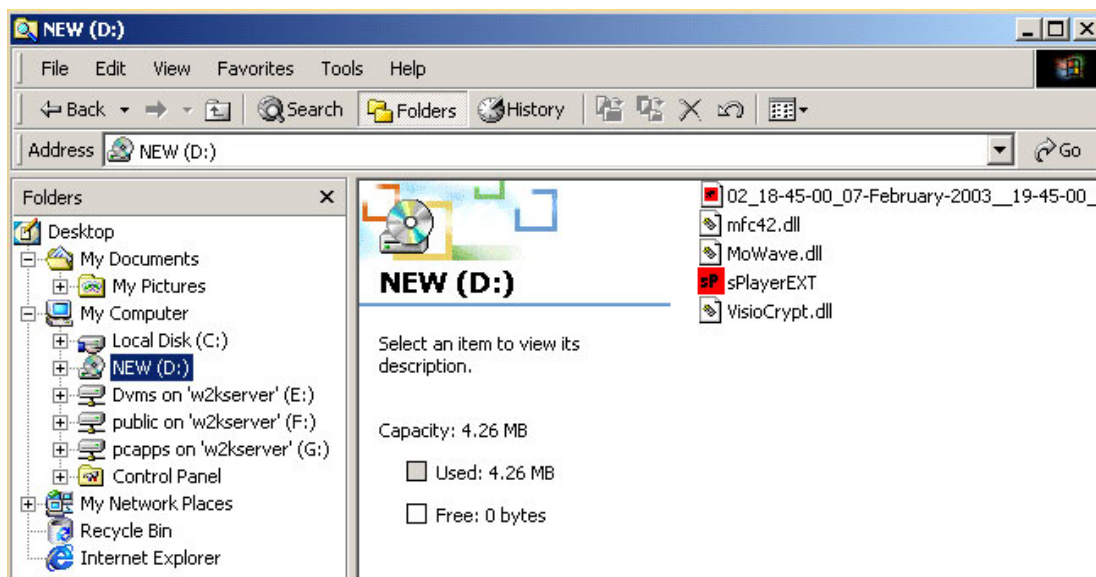

Figure 10-18: sPlayer retrieval from CD
1. Place the CD into the disc drive and start Windows Explorer and click on the CD icon, the contents should look like those shown in Figure 10-18: